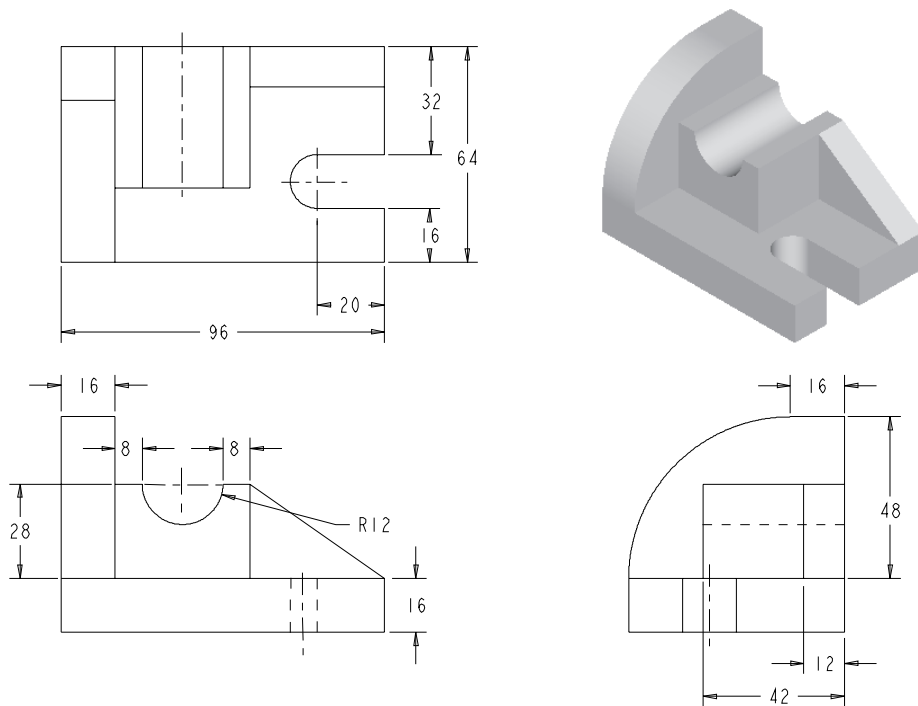

Figure 4-74 Top, front, right-side, and isometric views of the model
In this tutorial, you will create the model shown in Figure 4-74. This figure also shows the front, top, and right-side views of the solid model. **(Expected time: 45 min)**
- Examine the model and determine the number of features in it, refer to Figure 4-74.